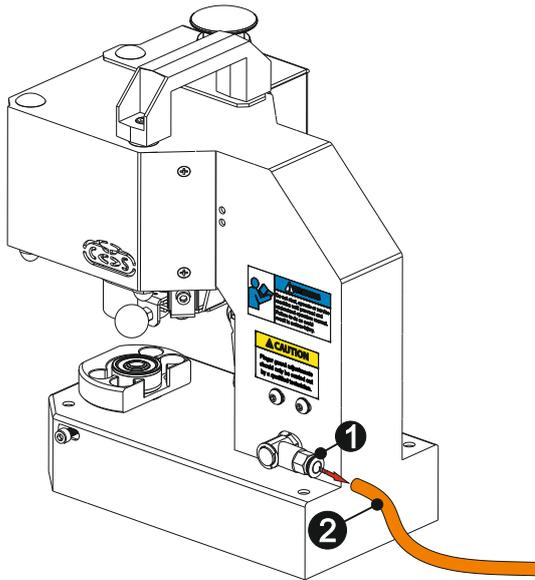

fig. 54
Shut down your air source and unplug the air hose from the machine. In order to unplug the air hose from the machine, push the blue part on the air entrance ❶ to the machine direction and while doing that pull the air hose ❷ at arrow direction as shown in above (fig. 54).